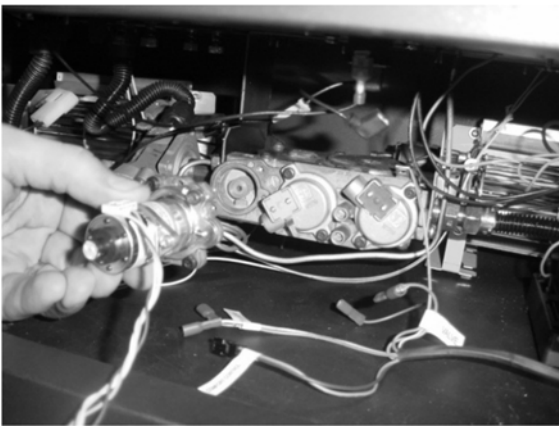
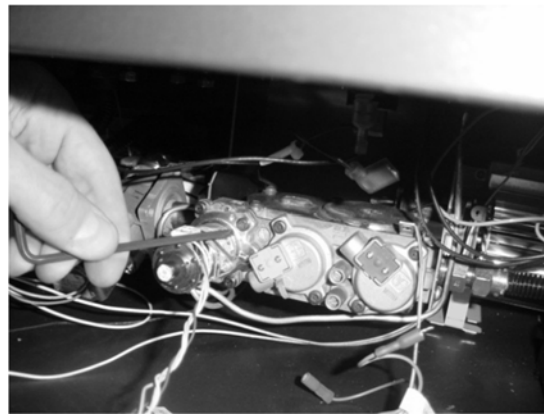

Figure 1
Figure 2
- (b) Remove and discard the Natural Gas (NG) orifice. Place the LP orifice in the pilot assembly then replace the pilot hood, tightening the pilot hood until it is snug (do not over-tighten).
- 6 Remove the control panel to access the gas control valve. The stepper motor (adjustable regulator) has an installation sheet included with it – make sure to follow all of the directions. Place the stepper motor on the gas control valve (see Figure 1) – **MAKE SURE IT IS CORRECTLY ORIENTED.** Secure using the screws included with the motor (see Figure 2) – tighten to 25 Lb-inches. Leak test this area after installation to verify proper installation.